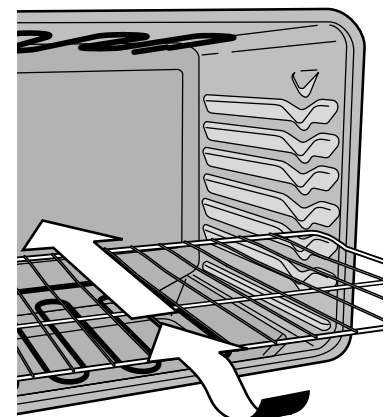

Fig. 5
**To replace** - Rest the oven rack evenly between a left and right front guide along the oven walls so that the oven rack rests level. Tilt front of rack upward and slide rack in past the stop position. Then bring the rack to a level position and slide the rack completely inside oven (Fig. 5).